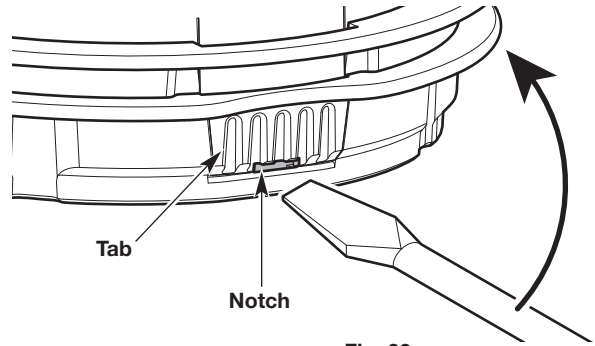

Fig. 23
- a. Insert a flat-head screwdriver into the notch on the tab (Fig. 23).
- b. Gently tilt the screwdriver up and hold it in place (Fig. 23).